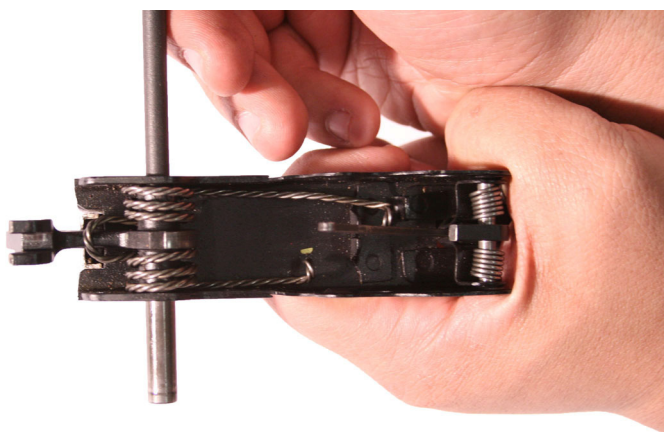

Figure 5. Removing the Hammer Pin.
5. Remove the hammer pin, then remove the main spring and hammer. Refer to Figure 5.